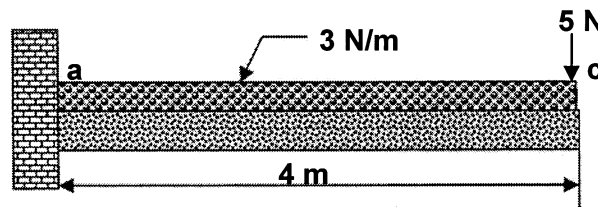

Figure 2
2.2 **Figure 2** shows a cantilever which is 4 metres long. The cantilever carries a 5 N force at the free end. A distributed load of 3 N/m, is distributed between the force at the free end and the fixed end.